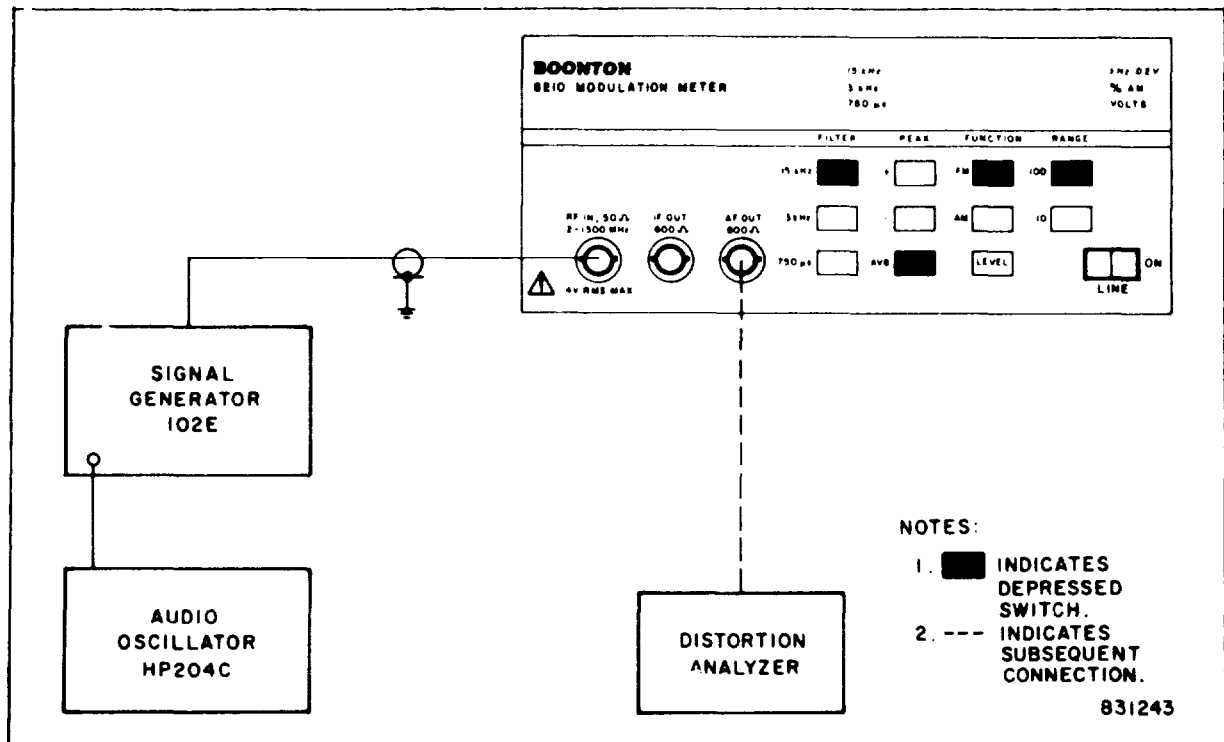

Figure 2-9. Test Setup: F.M. Audio Distortion and P.M. Rejection
- (1) Connect the 8210 and test equipment as shown in Figure 2-9.
- (2) Set the controls of the 8210 as shown.
- (3) Set the signal generator to 100 MHz, 0 dBm, and external f.m.
- (4) Adjust the level of the audio oscillator for 75 kHz peak deviation at a 1 kHz rate.
- (5) The indicated distortion should be less than 0.25%.
- (6) Repeat **Step** (4) for modulation rates of 50 Hz and 10 kHz.
- (1) Connect the equipment as shown in Figure 2-9.
- (2) Set the controls of the 8210 as indicated.
- (3) Adjust the audio oscillator's frequency to 1 kHz; adjust its amplitude for a 100 kHz peak deviation.
- (4) Change the 8210's FUNCTION to AM and its RANGE to 10.
- (5) The display should indicate less than 1.0%, peak.
- (1) Connect the equipment as in Figure 2-9.
- (2) Set the 8210's controls as shown.
- (3) Adjust the audio oscillator's frequency to 300 Hz, then adjust its amplitude until the 8210 reads 100.0 kHz.
- (4) Without changing the audio oscillator's level, adjust its frequency to exactly 3.00 kHz.
- (5) The Model 8210 display should indicate between 67.5 and 73.8 kHz.
- (3) Adjust the audio oscillator's frequency to 212.2 Hz, then adjust its amplitude until the 8210's display indicates 100.0 kHz.
- (4) Change the 8210's FILTER to 750 μ s.
- (5) The display should read between 68.0 and 73.5 kHz deviation.